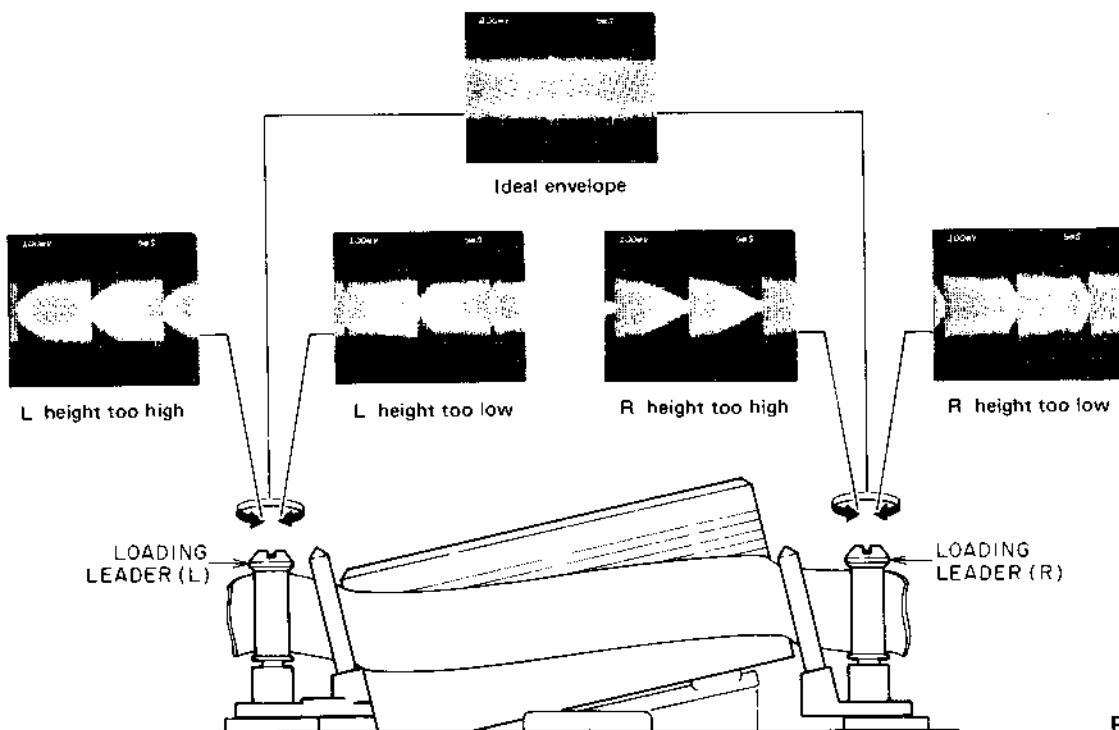

Fig. 5-13
- 4) Turn the LOADING LEADER heads with a screw driver to obtain flat RF envelope as ideal envelope shown in Fig. 5-13.